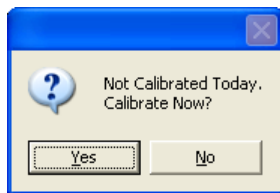
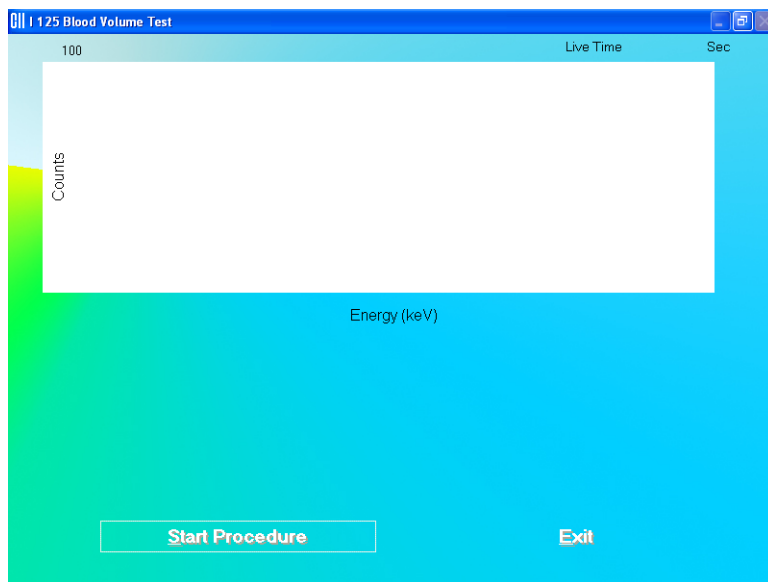

Figure 10-36
Figure 10-37
2. To begin the measurements, click the  button or press *Alt+C*. The screen appears as shown in Figure 10-37.
**Note:** If calibration has not been performed, you will be prompted with the screen as shown in Figure 10-36. If you calibrate now, the screen will return after calibration to the screen shown in Figure 10-37.
To begin counting, verify that there are no radioactive sources nearby and click the  button. To abort the measurement, click the  button and the screen will return to that shown in Figure 10-37. To exit to the Main I 125 Blood Volume Test Screen, click the  button or press *Alt+E*. To begin the test again, click the  button or press *Alt+S*.